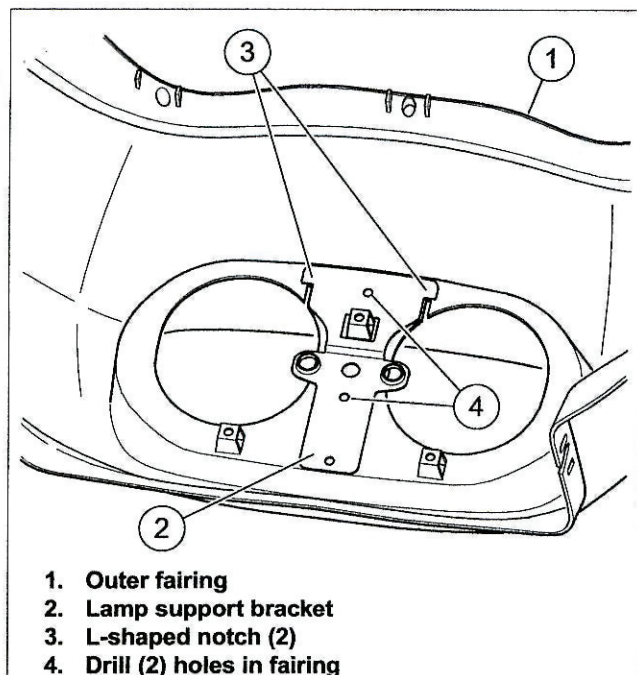
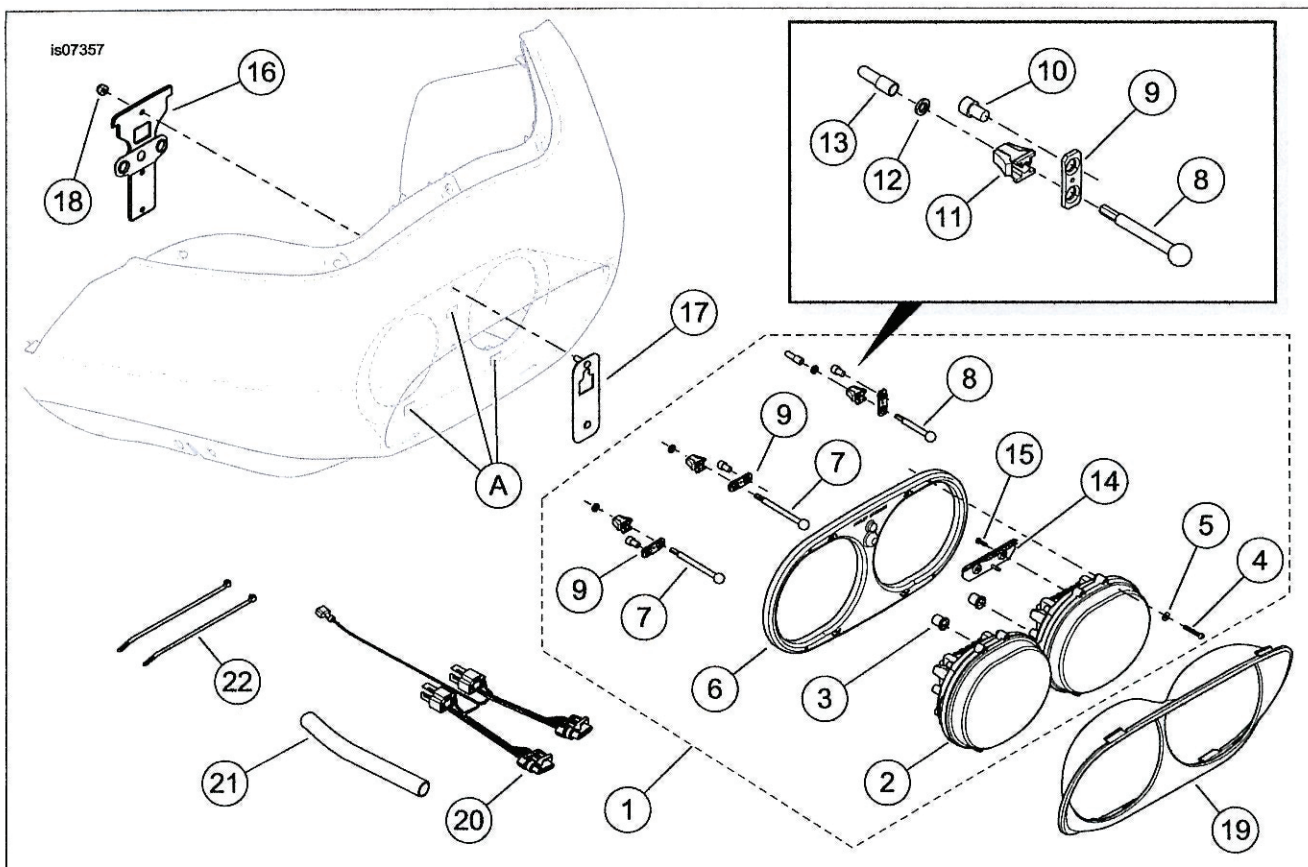

Figure 1. Install Lamp Support Bracket
Figure 2. Service Parts, FLTR Oval LED Headlamp Kits
See Figure 2 and Table 1.
3. See Figure 2. Get the lamp support bracket (16) from the kit. Test-fit the bracket to the back side of the outer fairing, between the headlamp openings as shown in Figure 1 before installation. Do not remove the liners until ready to apply the bracket.
6. Using the bracket holes (4) as a guide, drill two 17/64 in (6.8 mm) to 9/32 in (7 mm) diameter holes in the fairing.
8. See Figure 2.
- a. Get the front support plate (17) and two lock nuts (18) from the kit.
9. Remove the thread protector cap (13) from the upper adjusting screw (8).
- a. Align the adjusting screws (7 and 8) with the holes at the base of the three pockets (A) in the dual headlamp bezel (6). Start the screw threads into the holes.
- b. Align the three headlamp mounting clips (11) with the sides of the pockets. Align the two bushings (3) with the holes in the LED lamp support bracket (16).
- d. The O-rings (12) should be seated squarely between the headlamp clips and the base of the pockets (A).